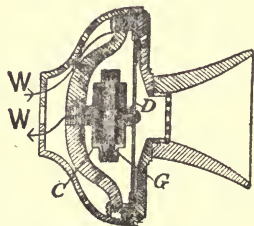
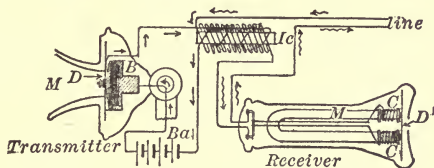

FIG. 139. — Carbon transmitter.
FIG. 140. — Local battery telephone system.
*Carbon transmitter.* The carbon transmitter is the form most commonly used (figure 139). Back of the diaphragm *D* is some granular carbon *G* in a little box *C*, and as the diaphragm vibrates, it causes a variation in the pressure upon the points of carbon. This produces a variation in the strength of the current that passes through the battery. This is connected with an induction coil *Ic* (figure 140), and produces in the secondary coil varying currents, which travel over the main line. These variations are reproduced in the